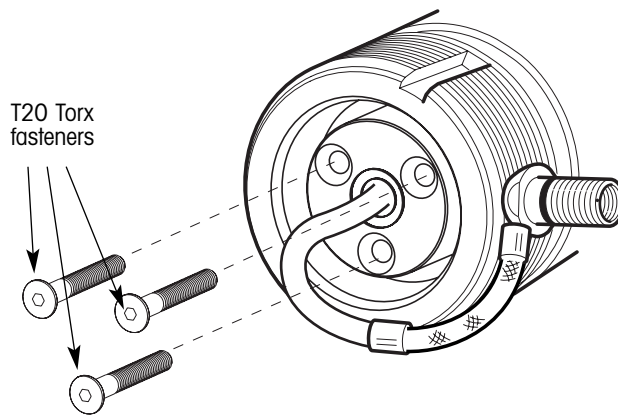

figure 48. Rotary joint removal from spindle
2. Remove the three fasteners holding the rotary joint assembly to the spindle plug (figure 48).